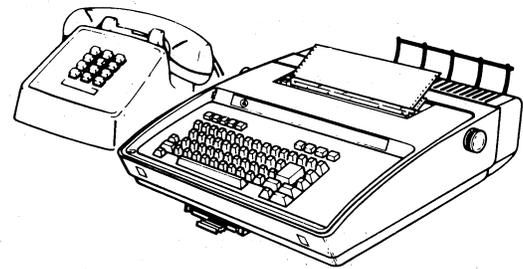

Fig. 1--43 KSR Station (Sprocket Feed)
1.01 This section provides station installation and removal information for the 43 KSR and RO Station Sprocket Feed (Fig. 1).